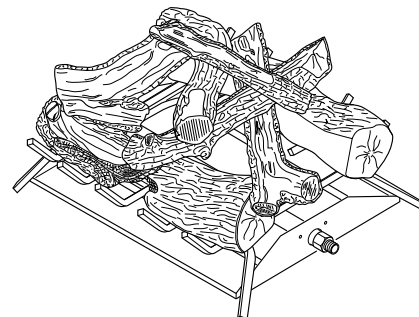

Figure 19 - Placement of Top Logs
- Place the smaller top logs onto the bottom logs (see Figure 19). Leave as much open space between logs as possible to minimize flame impingement and sooting. **Note:** Logs may chip if they are handled roughly or if hit together while being placed.